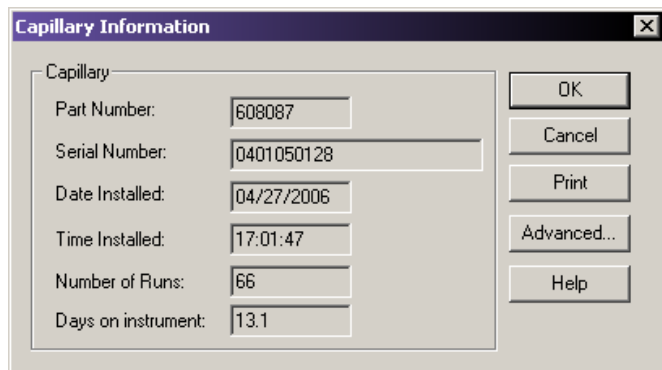

Figure 3.38 Capillary Information Dialog
2. Use the **Capillary Information** dialog box (Figure 3.38) to view the following information: